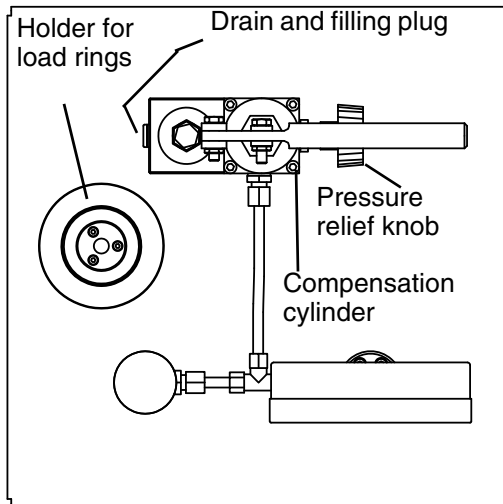

Fig. 3.3 Top view
- Remove the drain and filling plug (see Fig. 3.3)